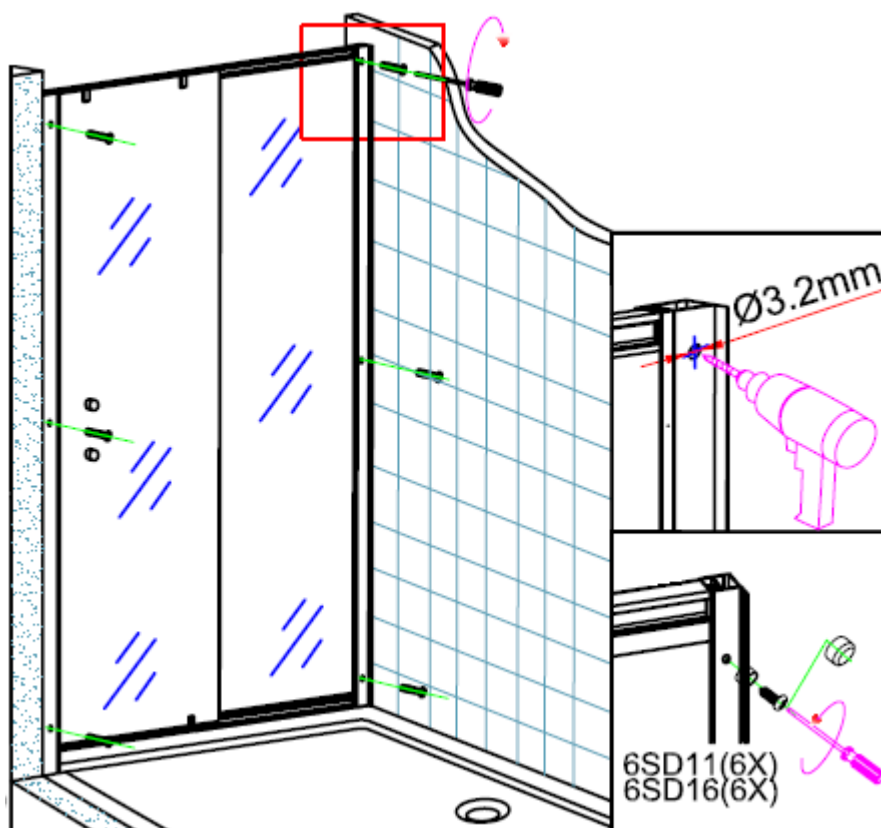

Figure 12
12. Fasten the fixed profile and wall profile by using screw(6SD11), as showed in figure 12